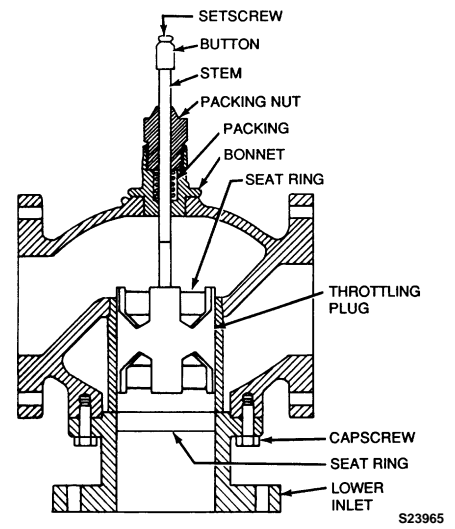
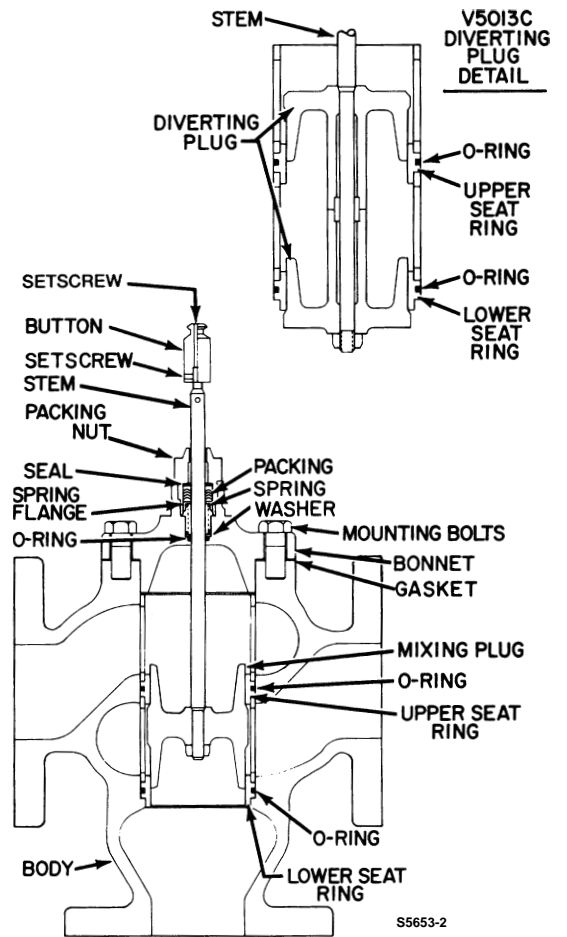

Fig. 15. Three-Way V5013A Flanged Body Valve—Cutaway.
Fig. 16. Three-Way V5013B-E Flanged Body Valve—Cutaway.
- f. V5013A Flanged Body Valves (Fig. 15). Remove valve from line. Unscrew the Bonnet. Remove Cap Screws then the Lower Seat Outlet with Lower Seat Ring. Remove Stem and Plug.
- g. V5013B-E Flanged Body Valves (Fig. 16). Remove mounting screws and detach the Bonnet. Unscrew the Upper Seat Ring and lift out Stem and Plug. Remove the Lower Seat Ring through the bonnet opening.
- d. V5013 Flanged Body Valves (Fig. 15). On V5013A, remove Pin and detach the stem from Throttling Plug. On V5013B-E (Fig. 16), remove Plug Nut and detach the Plug.